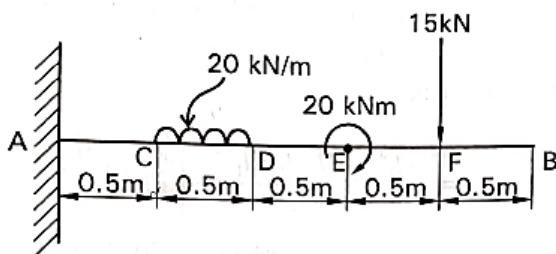

Fig. 6b
b) Determine slope and deflection at free end of the cantilever shown in fig. 6b. Take $I = 200 \times 10^{-6} \text{ m}^4$; $E = 2 \times 10^8 \text{ kN/m}^2$